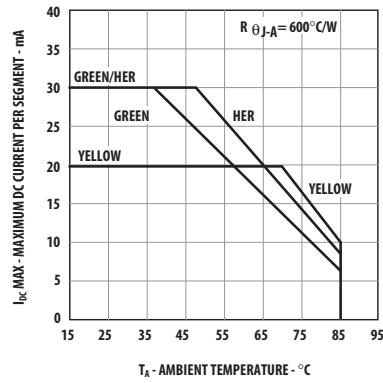

Figure 9. Maximum Allowable DC Current vs. Ambient Temperature. $T_{JMAX} = 100^{\circ}$ C.
6. Derate maximum DC current for HER above $T_A = 48^\circ\text{C}$ at $0.58\text{ mA}/^\circ\text{C}$, Yellow above $T_A = 70^\circ\text{C}$ at $0.66\text{ mA}/^\circ\text{C}$, and Green above $T_A = 37^\circ\text{C}$ at $0.48\text{ mA}/^\circ\text{C}$. See Figure 9.